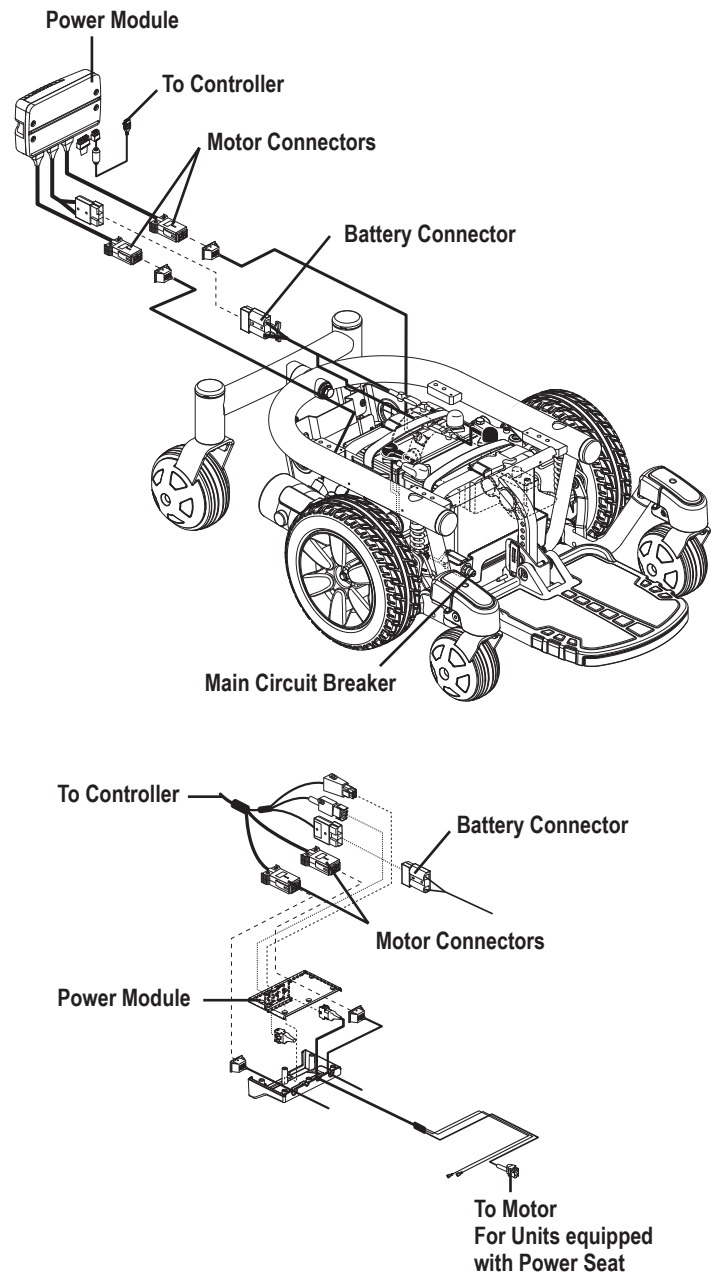

Figure 1. J6 Electrical Components
The J6 has two main assemblies: the seat assembly and the power base assembly. Typically, the seat assembly includes the armrests, seatback, and seat base. The power base assembly includes two motor/brake assemblies, two drive wheels, four caster wheels, two batteries, and wiring harnesses. **See J6 (page 4) and figure 1.**
The electrical components are located inside the power base. The main circuit breaker is located on the front of the battery tray. The controller connector(s) are located inside the power base. **See figure 1.**
6. Plug the controller connector into the power base. **See figure 1.**
4. Disconnect the controller connector(s) from the power base. **See figure 1.**